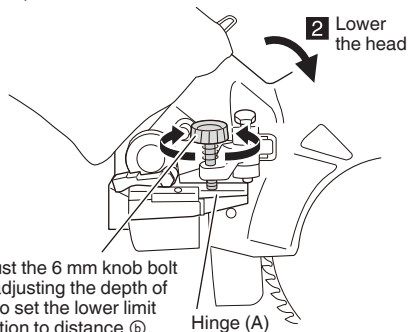

Fig. 57
- (2) With the tip of the 6 mm knob bolt for adjusting the depth of cut abutting hinge (A), turn the knob bolt to adjust the lower limit position of the saw blade to distance ㉕. (Fig. 57)